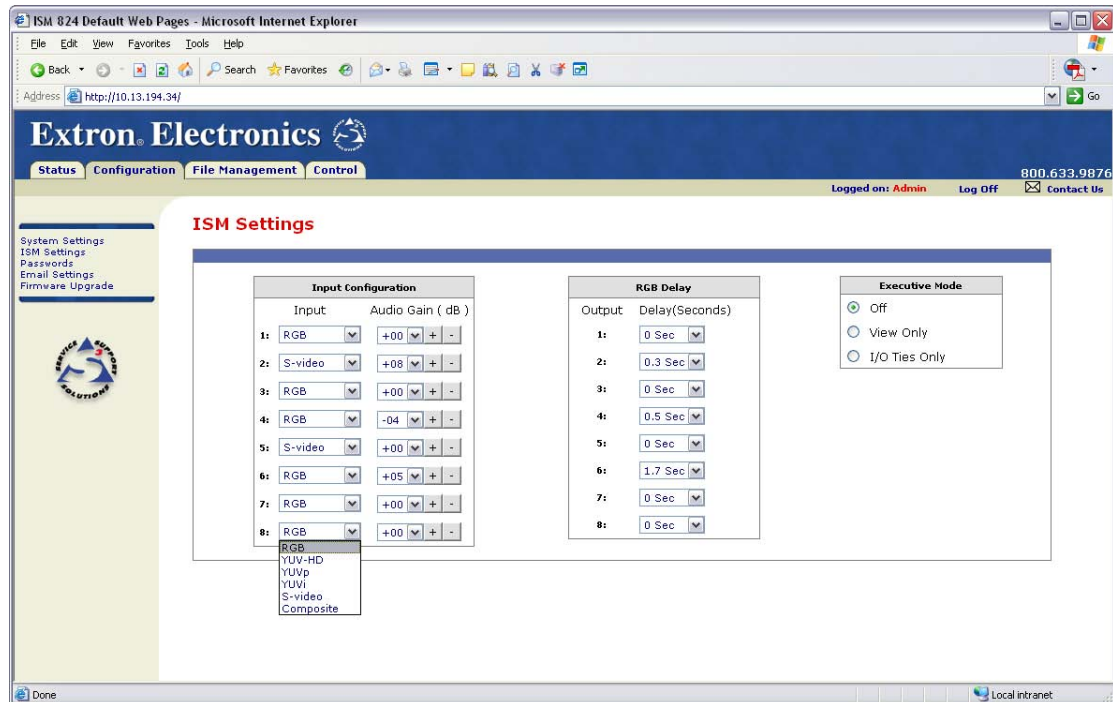

Figure 6-5 — ISM Settings page
- The video type and audio gain values (in dB) for each input (figure 6-5).
1. Click on an input's drop down box in the Input column, for a list of input video formats (RGB, YUV-HD, YUVp, YUVi, S-video, and composite) available for selection (see figure 6-5).